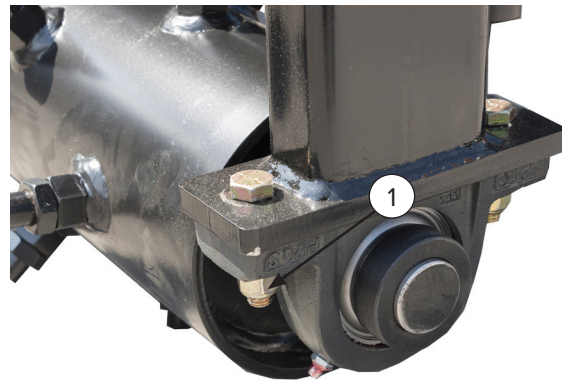

Figure 16
8. Remove the two bearing mount bolts (Item 1) [Figure 16].